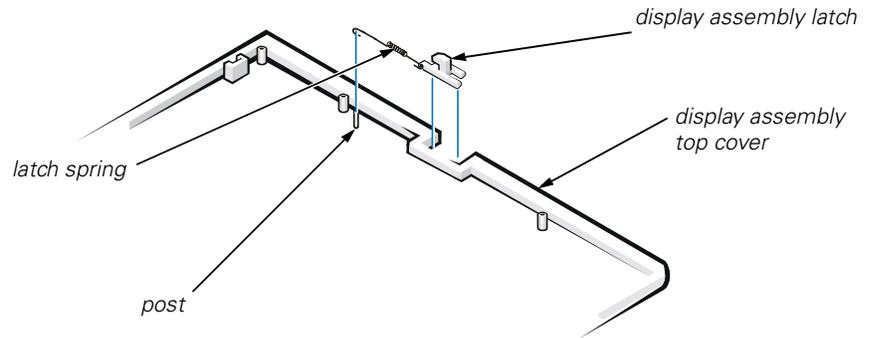

Figure 10. Display Assembly Latch Removal
2. Lift the display assembly latch off the display-assembly top cover (see Figure 10).
3. Slide the latch spring off the post on the display-assembly top cover (see Figure 10).